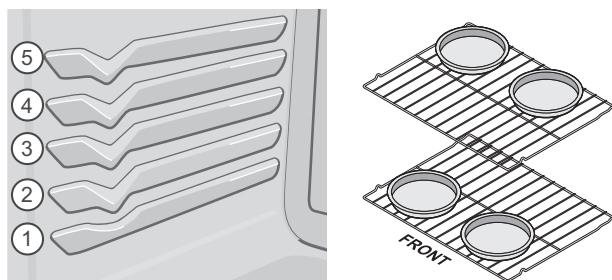

Figure 23: Convection rack positions and pan spacing
- Layer cakes will have best results using the Cakes/Breads function. For pan spacing and rack setting, refer to Figure 23 on page 21.